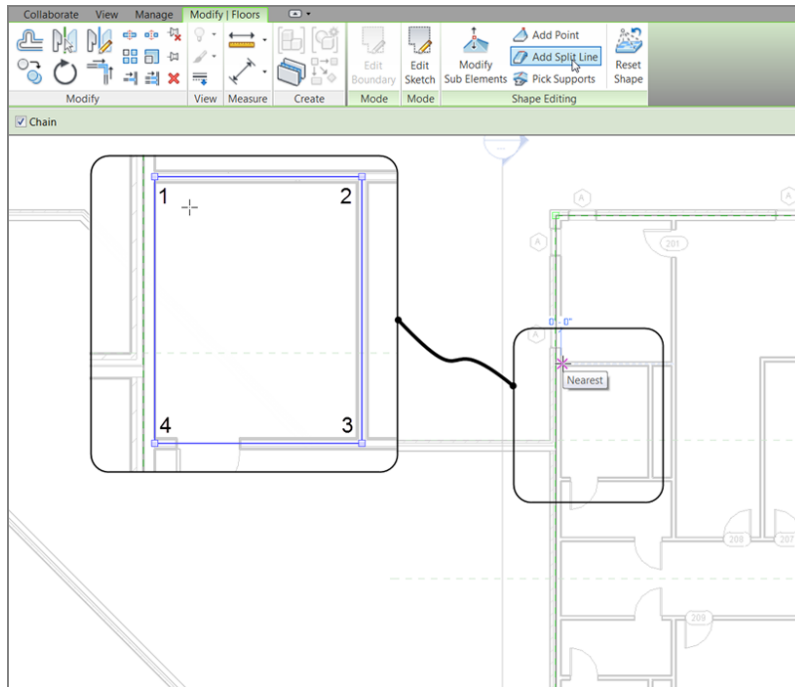

FIGURE 6.47: Drawing a split frame around the inside of the lavatory
2. Zoom in on the lavatory areas, as shown in Figure 6.47.
4. The Modify | Floors tab shows several choices. In the Shape Editing panel, click the Add Split Line button (see Figure 6.47).
6. Draw lines along the finished inside face of the lavatory (see Figure 6.47). As always, there can be no gaps or overlaps.